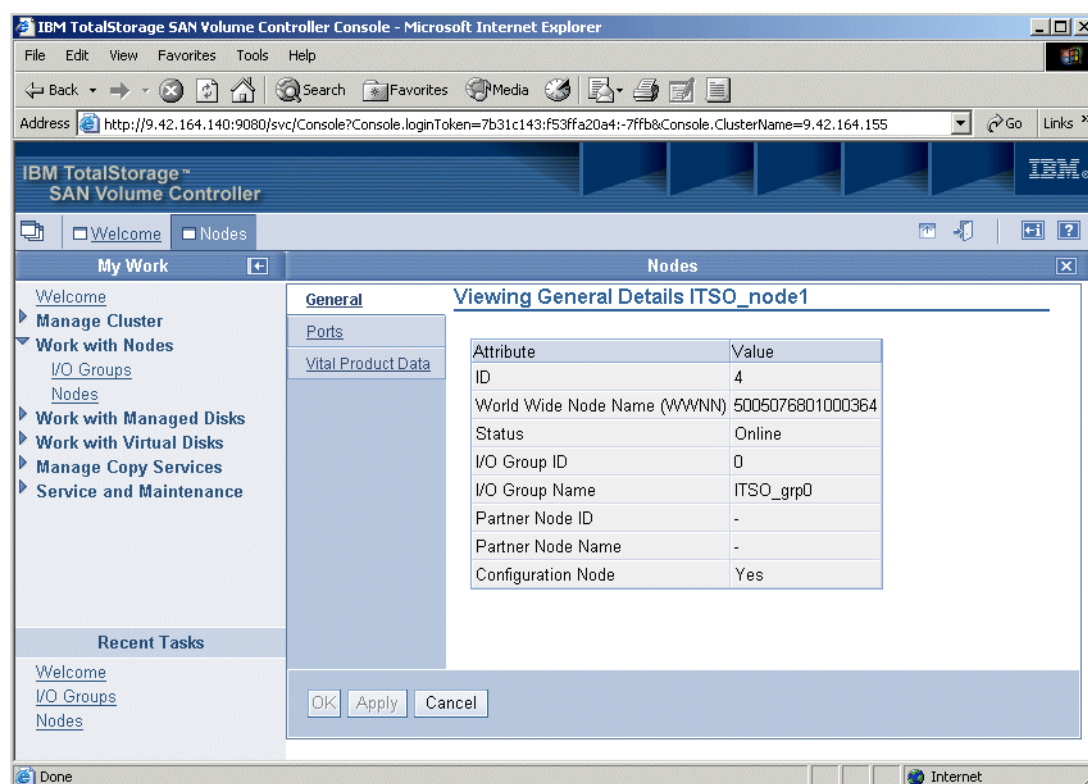

Figure 9-21 General node details
2. The Viewing General Details *nodename* panel (where *nodename* is the node you chose) opens as shown in Figure 9-21. Click the **Ports** and **Vital Product Data** links to view additional information about your selected node.